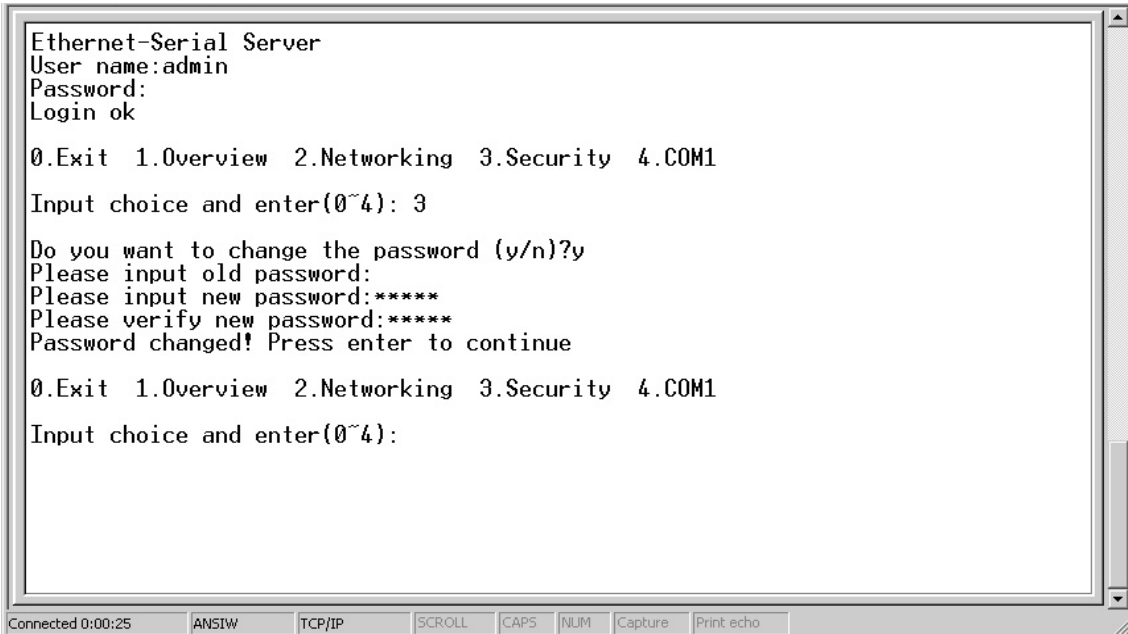

Figure 3.8 Change the password
1. Select **3** from **Input choice and enter (0~4)**: the following screen appears. (Figure 3.8)